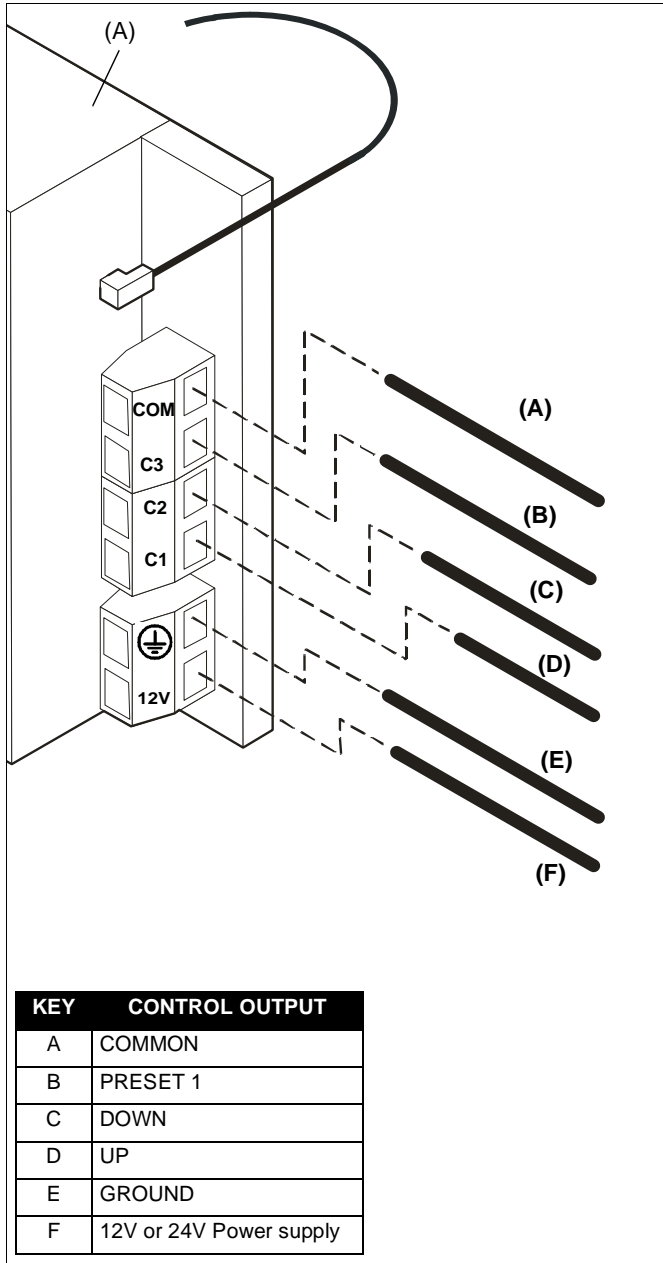

Figure 2
- Using a slotted screwdriver, connect power and signal wires to the IR to Dry Control accessory (A). (See Figure 2)